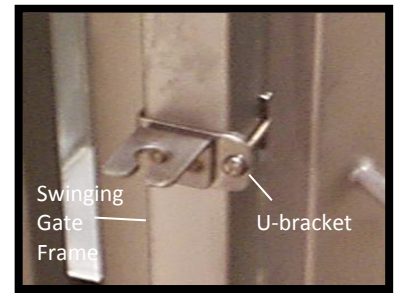

Figure 43: Handle holder in Place on Swinging Gate
1. With a flat-blade screwdriver, remove the screw from the U-bracket on the handle holder (Figure 43).